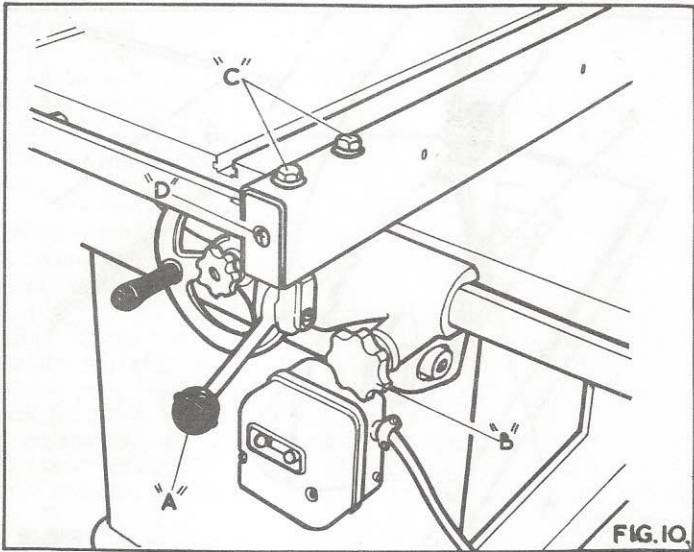

FIG. 10.
1. Lift handle "A", in fig. 10, and disengage the pinion from the front racked fence bar by pulling handwheel "B", out of the fence front bracket.
3. If the fence is incorrectly aligned loosen the two hexagon head bolts "C" in fig. 10 and re-align as above. When set tighten all bolts.